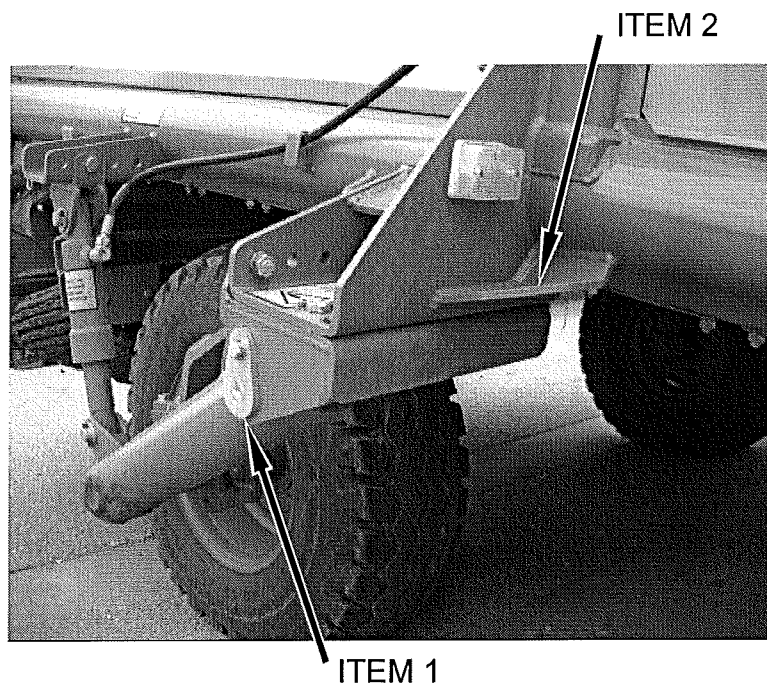
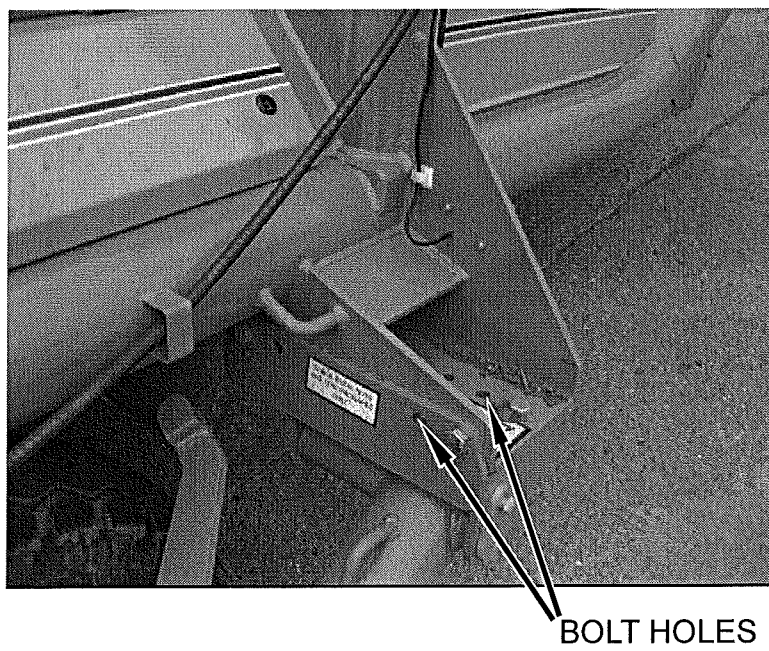

Fig 6.2
Fig 6.3
Each axle assembly is held by a pivot pin (fig 6.2 item 1) to an attachment bracket, which is bolted by 4 x 16 mm setstuds to a mounting welded on the main chassis. Moving these brackets along a series of holes in the mounting (fig 6.3), adjusts the wheels to suit the selected bed width. The attachment brackets must be changed from one side of the machine to the other in order to attain the 80" and 84" wheel settings.
First place chocks under the opposite wheel to the one being raised to prevent the machine moving. Place the trolley jack on firm, level ground under the relevant side jacking point (fig 6.2 item 2).jack up the machine until the wheel is just clear of the ground. Place the axle stand under the main chassis of the machine in case the jack should become dislodged.